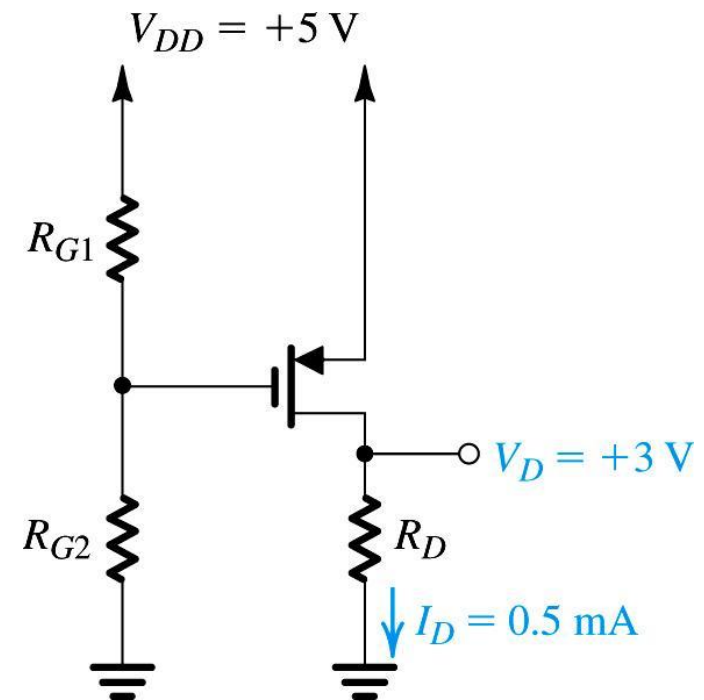

Figure 5.25: Circuit for Example 5.7.
- **Problem Statement:** Design the circuit of Figure 5.25 so that transistor operates in saturation with $I_D = 0.5\text{mA}$ and $V_D = +3\text{V}$. Let the enhancement-type PMOS transistor have $V_{tp} = -1\text{V}$ and $k'_p(W/L) = 1\text{mA/V}^2$. Assume $\lambda = 0$.